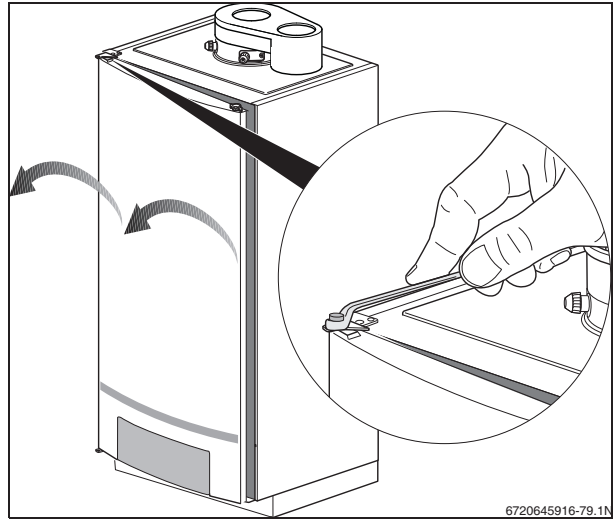

Fig. 78 Removing the boiler door
- Unscrew the bolt from left-hand top hinge of the boiler door and remove it together with the washer (fig. 78).